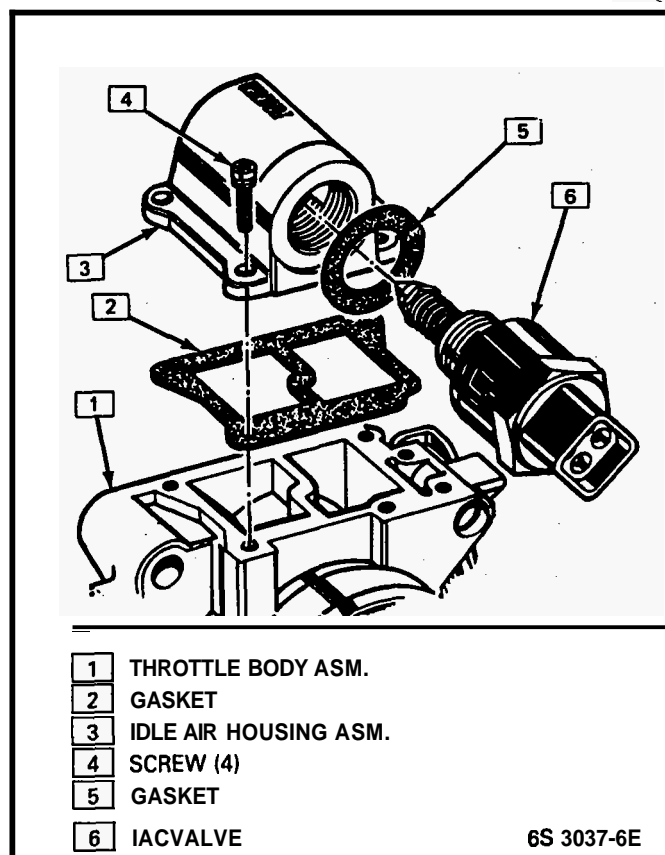

Figure C2-18 - Idle Air Housing Assembly
**Remove or Disconnect (Figure C2-18)**